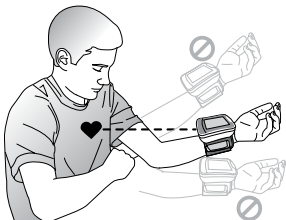

Fig. 1
1. Rest your elbow on a solid surface with your palm facing upward. Elevate your arm so that the cuff is at the same level as your heart, Fig 1. Be certain that the cuff is elevated to the proper level; you may choose to support your hand with a folded towel or book. Relax your hand.